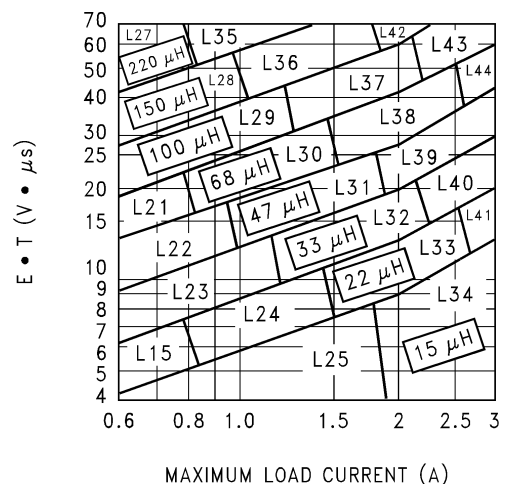

Figure 24. LM2596-ADJ
<p>2. Inductor Selection (L₁)</p> <p>A. Calculate the inductor Volt • microsecond constant E • T (V • μs), from the following formula:</p> $E \cdot T = (V_{IN} - V_{OUT} - V_{SAT}) \cdot \frac{V_{OUT} + V_D}{V_{IN} - V_{SAT} + V_D} \cdot \frac{1000}{150 \text{ kHz}} (V \cdot \mu s)$ <p>where</p> <ul style="list-style-type: none"> V_{SAT} = internal switch saturation voltage = 1.16V V_D = diode forward voltage drop = 0.5V <p>(4)</p> <p>B. Use the E • T value from the previous formula and match it with the E • T number on the vertical axis of the Inductor Value Selection Guide shown in Figure 24.</p> <p>C. on the horizontal axis, select the maximum load current.</p> <p>D. Identify the inductance region intersected by the E • T value and the Maximum Load Current value. Each region is identified by an inductance value and an inductor code (LXX).</p> <p>E. Select an appropriate inductor from the four manufacturer's part numbers listed in Table 3.</p>	<p>2. Inductor Selection (L₁)</p> <p>A. Calculate the inductor Volt • microsecond constant (E • T),</p> $E \cdot T = (28 - 20 - 1.16) \cdot \frac{20 + 0.5}{28 - 1.16 + 0.5} \cdot \frac{1000}{150} (V \cdot \mu s)$ $E \cdot T = (6.84) \cdot \frac{20.5}{27.34} \cdot 6.67 (V \cdot \mu s) = 34.2 (V \cdot \mu s) \quad (5)$ <p>B. E • T = 34.2 (V • μs)</p> <p>C. I_{LOAD(max)} = 3A</p> <p>D. From the inductor value selection guide shown in Figure 24, the inductance region intersected by the 34 (V • μs) horizontal line and the 3A vertical line is 47 μH, and the inductor code is L39.</p> <p>E. From the table in Table 3, locate line L39, and select an inductor part number from the list of manufacturers part numbers.</p>